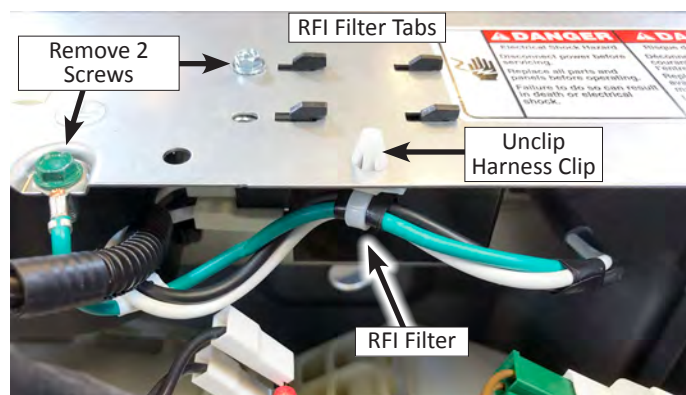

Figure 1
5. Using either a ¼" hex-head, or T20 Torx driver, remove the "green" ground screw and the one screw securing the RFI filter to the rear bracket. See Figure 1.
6. Unclip the harness clip and slide RFI Filter to disengage tabs from top of rear bracket. Remove RFI filter (see Figure 1).
7. With filter removed, disconnect the two (2) AC input terminals and the one AC output connector. Remove RFI filter from washer.